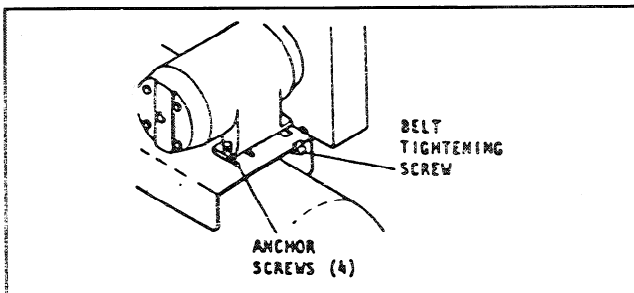

Figure 6-4. Belt Adjustments.
- A. Measure the belt span (t) as shown in Figure 6-4.